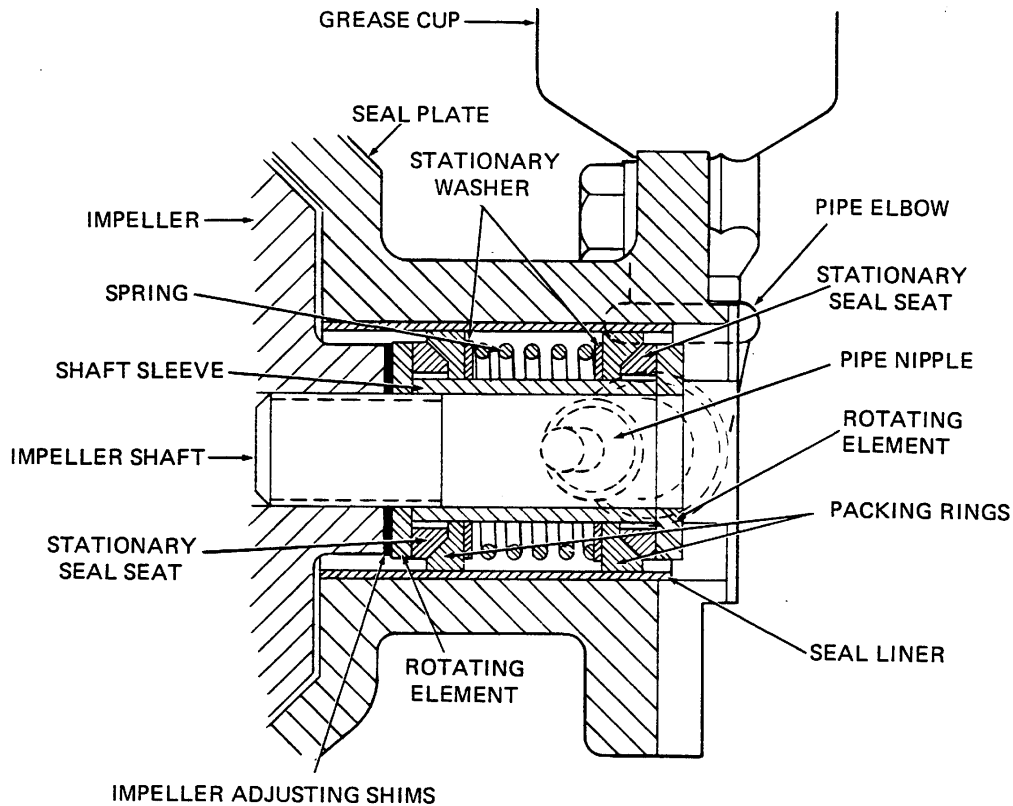

Figure 2. GS625 Seal Assembly
To ease installation of the seal, lubricate the packing rings and intermediate (24) with water or a very **small** amount of oil, and apply a drop of light lubricating oil on the finished faces. Assemble the seal as follows, (see Figure 2).